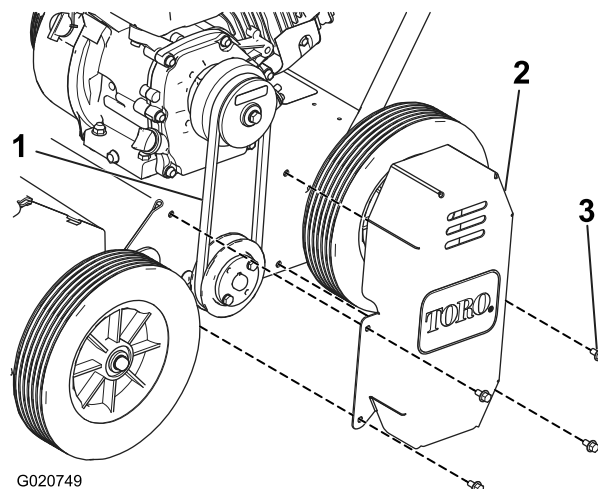

Figure 21
2. Remove the 4 bolts securing the belt cover to the left side of the machine and remove the cover (Figure 21).
3. Check the tension of the belt (Figure 21).